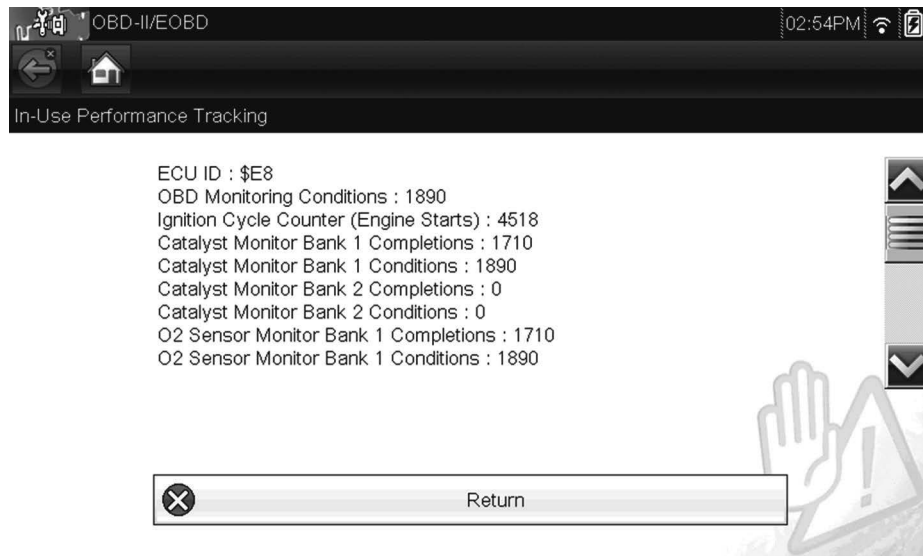

Figure 17 Typical - OBD-II/EOBD Mode \$09 In-Use Performance Tracking (Solus Edge/Modis Ultra)
- **\$09 In-Use Performance Tracking** - displays completion and condition values for supported monitors (Figure 17):